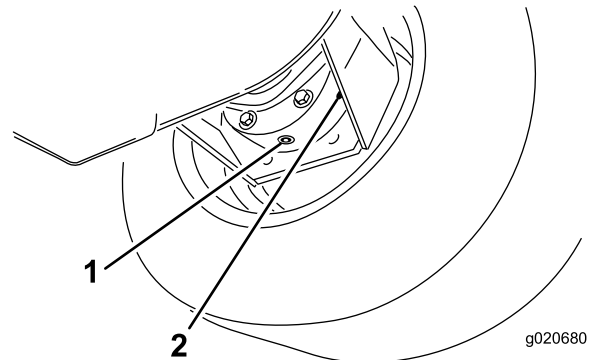

Figure 62
3. Place a drain pan under the brake housing, remove the drain plug and allow the oil to drain (Figure 62).